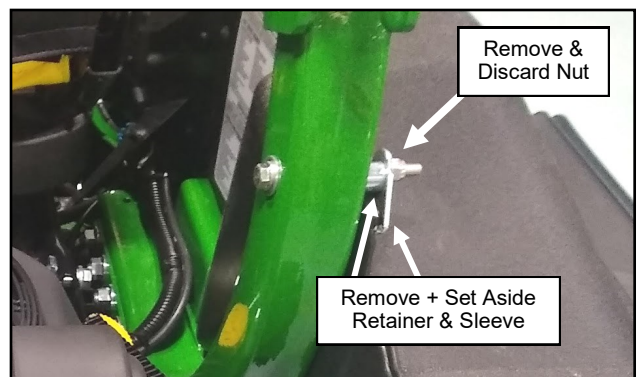

Fig. 1.18 (Right Side Fender)
- 1.18** Remove the sleeve and retainer from the rear of the right side fender and set aside for later re-installation. Remove and discard M8X1.25 Lock Nut. See Figure 1.18.